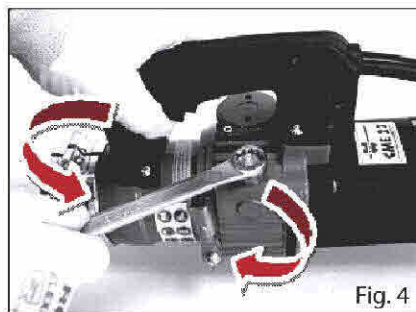

Fig. 4
2. Unscrew the magnetic cap (fig. 4) and remove any residues with the piston in its retracted position;
11. Put back the oil cap and vent screw and tighten (figs. 4 and 5).
4. Unscrew the magnetic cap (see fig. 4) and remove any residues;
7. Put back the oil cap and vent screw and tighten (figs. 4 and 5).